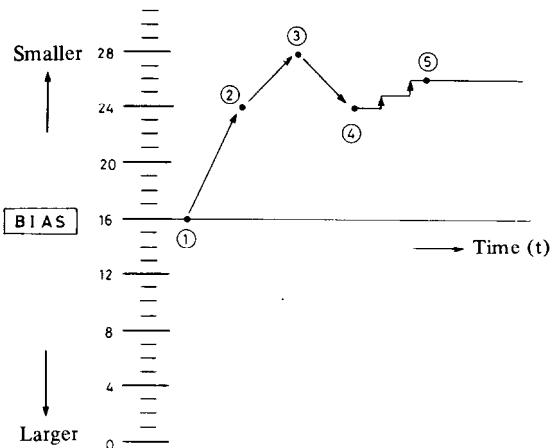
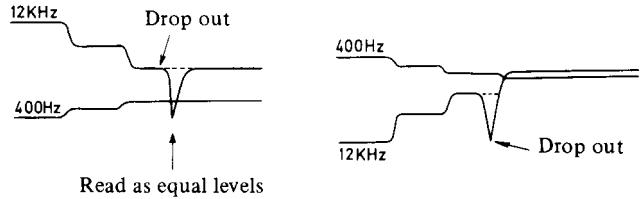
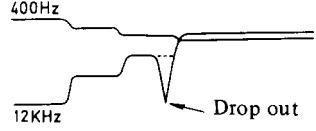

Fig. 2 Bias adjustment method
Fig. 3 Example of misoperation caused by drop out
Fig. 4 Example where effect of drop out is avoided
First the bias is set to step 16 which is in the center of the bias range shown in Figure 2. Then the 400Hz/12kHz mixed signal is subjected to a comparison operation to see which component is larger. If the 12kHz signal is larger, then the bias level is too small. If the 400Hz signal is larger, on the other hand, the bias level is too large. In the example shown in Figure 2, the bias level at step 16 is too large, so the bias is reduced by $\frac{1}{4}$ of the total range (8 steps) to position (2) where the 400Hz and 12kHz components are again compared. If the 400Hz signal is still larger than the 12kHz signal, the bias level is further reduced by $\frac{1}{8}$ of the total (4 steps) (3) and the components then compared again. This procedure is used for rough adjustment of the optimum bias. If at this stage, the 12kHz signal is now found to be greater than the 400Hz signal, the optimum bias is known to exist between steps 24 and 28. The operation is now switched to fine adjustment — the bias is increased by $\frac{1}{8}$ and then reduced one step at a time from step 24. The step where the component signal size relationship is switched from $400 > 12k$ to $12k > 400$ is taken as the optimum bias (5), and the bias is set at this level. This fine adjustment operation proceeds only from greater to lower bias levels in order to avoid misoperation due to possible drop outs. The effects of a drop out on the bias adjustment when the bias is changed from a smaller to a larger level is indicated in Figure 3, while the reverse case is indicated in Figure 4.